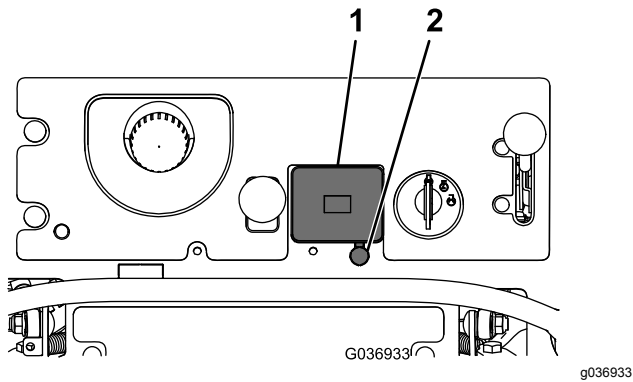

Figure 2
1. Remove the hour meter from the machine by squeezing the tabs underneath the control panel and pushing up (Figure 2).
2. Punch out the round tab next to the hour meter (Figure 2).